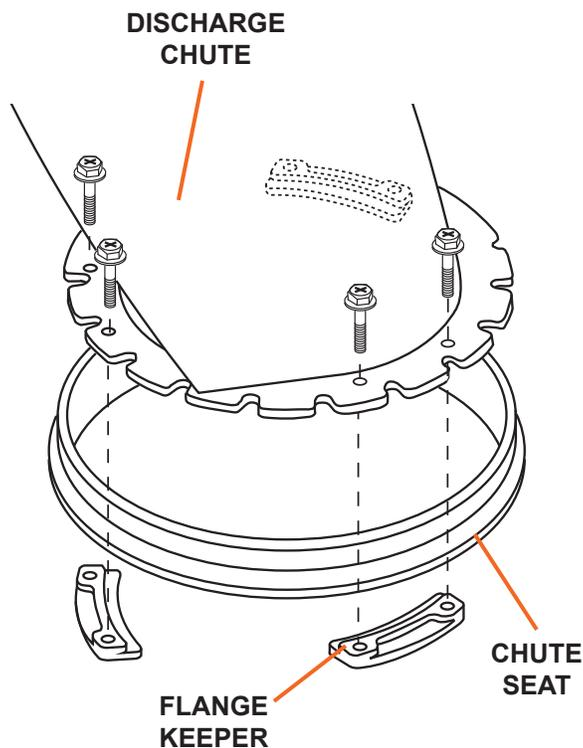

Figure 4
1. Attach the discharge chute to the snow blower by placing it on the chute seat on the snow blower. Position the flange keeper beneath the chute seat lip. Align the two holes in the chute and two holes in the flange keeper and secure with two bolts from the top side (see Figure 4). Repeat in three locations to attach the discharge chute to the snow blower.